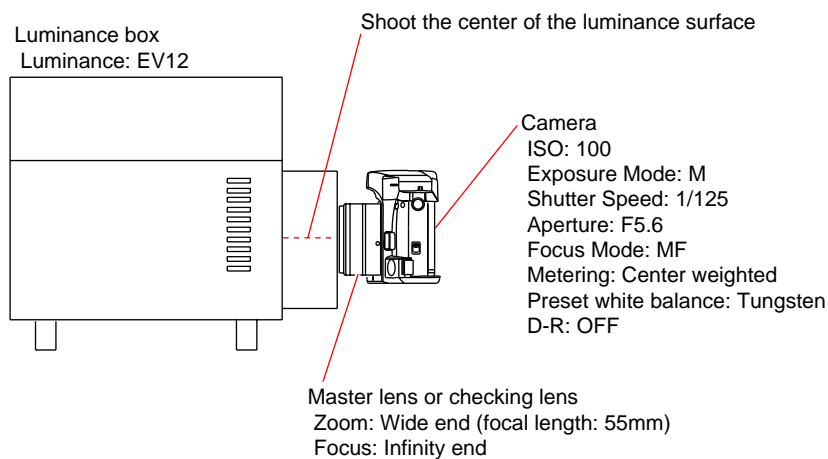

Fig.4-2-1
- 2) Set the equipments, camera and master lens as shown in Fig.4-2-1.